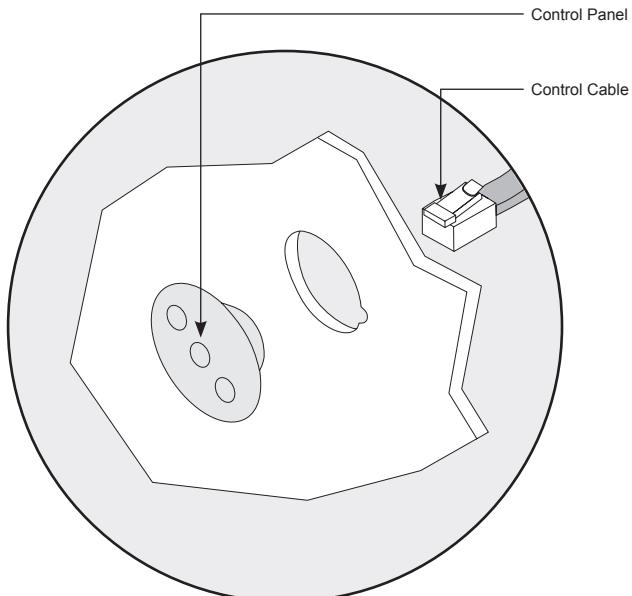

Figure 5 - Control Cable Attachment
- 10** Attach the control cable from the control box (Figure 5).